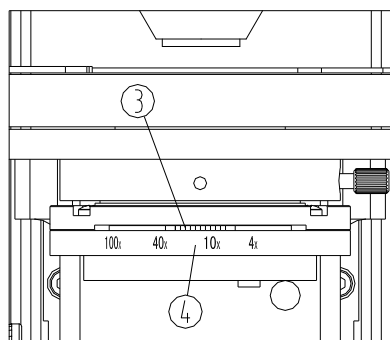

Fig.12
2. As the contrast is usually low, rotate the diaphragm adjust ring③ to make the arrowhead pointed to the related magnification position on condenser base④, namely, to adjust the condenser aperture diaphragm to be 70%-80% of the N.A. of objective. The eyepiece can be taken off when it's necessary to observe from the tube. Adjust the ring③ to adjust the proportion (see Fig. 12).